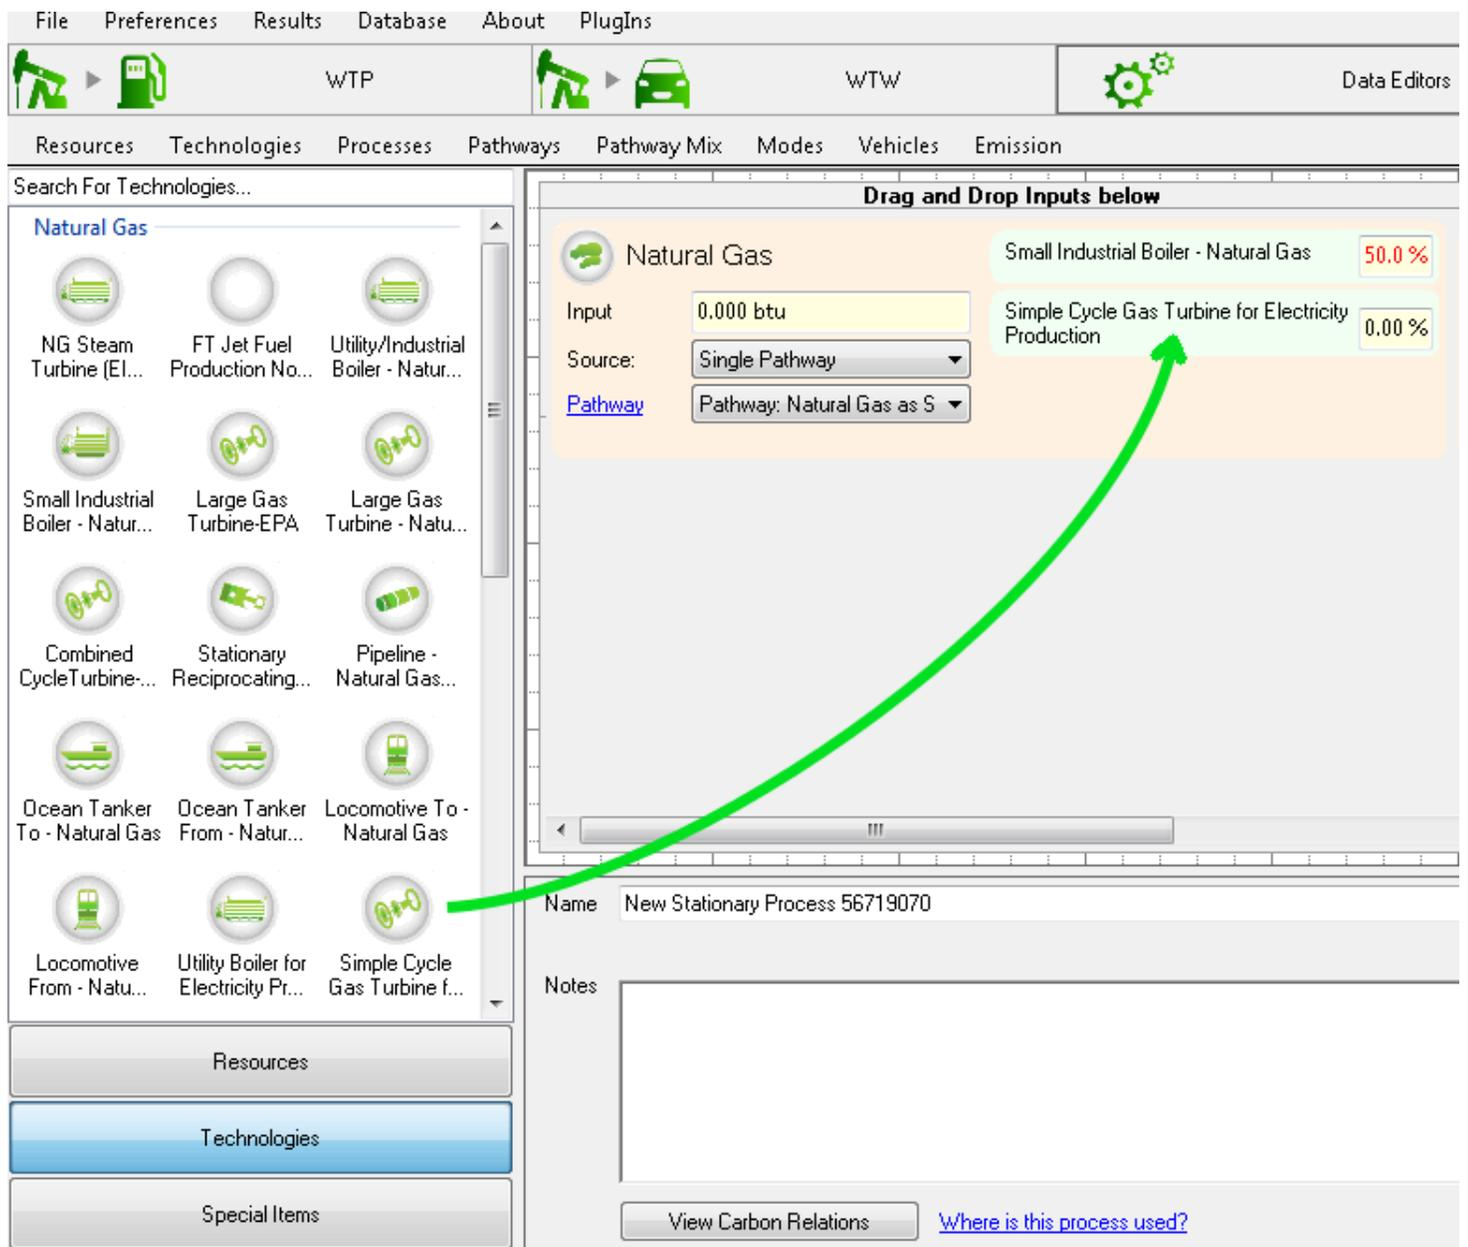

Figure 41: Adding a Technology Over an Input and Assigning Shares to It
**Adding Technologies:** Technologies can only be added to stationary processes; Technologies are not needed with transportation processes and thus not allowed to be added. Technologies are added to stationary processes in the same drag and drop way Resources are added to processes. Figure 41 shows dragging and dropping a utility boiler and a simple cycle gas turbine onto a natural gas input.